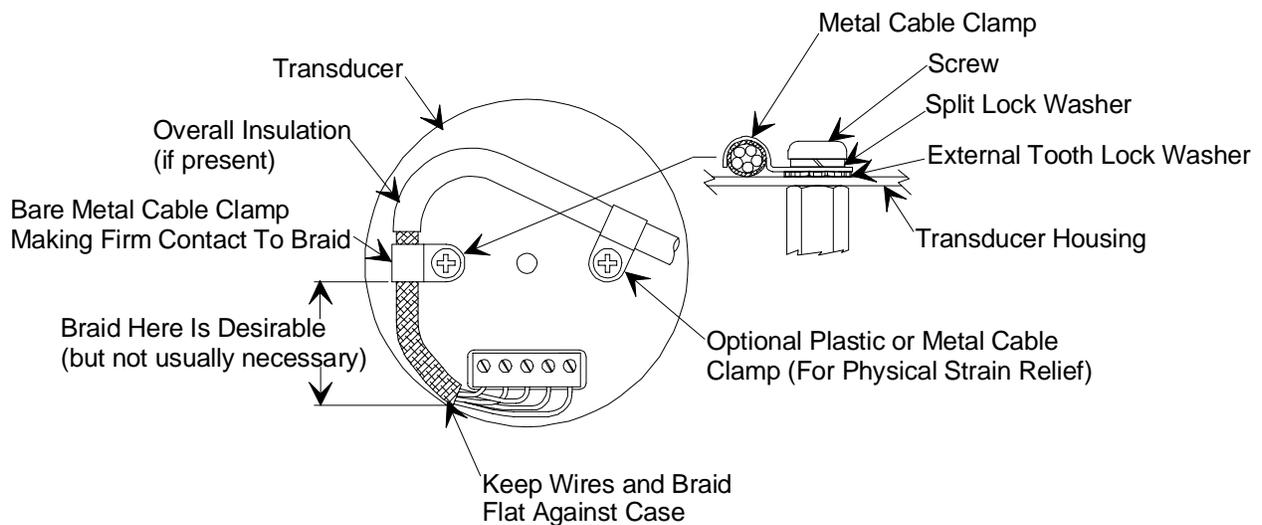

Figure 2: Preferred Method
4. For shielded cables with flying leads at one or both ends; it is important at each such end, to ground the shield *before* the wires exit. Make this ground with absolute minimum length. Refer to Figures 2 and 3, page 26. (A ¼ inch piece of #22 wire may be undesirably long since it has approximately 5 nH of inductance, equivalent to 31 ohms at 1000 MHz). After picking up the braid's ground, keep wires and braid flat against the case. With very few exceptions, grounded metal covers are not required over terminal strips. If one is required, it will be stated in the Declaration of Conformity or in the instruction manual.